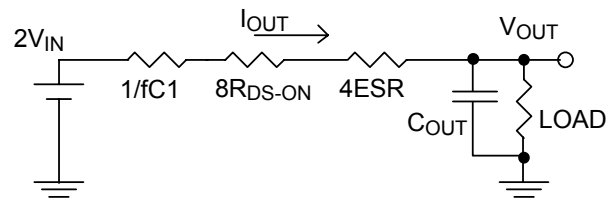

Fig. 22 The equivalent circuit of charge pump
According to the equation (16), when the duty cycle is 0.5, the equivalent circuit of charge pump is shown in Fig. 22. The term $8R_{DS-ON}$ is the total effect of switching resistance, $1/fC_1$ is the effect of flying capacitor and $4ESR$ is its equivalent resistance.
From the equivalent circuit shown in Fig. 22, it is seen that the terms $1/fC_1$, $4ESR$ and $8R_{DS-ON}$ should be as small as possible to get large output current. However, for users, since the R_{DS-ON} is fixed and manufactured in IC, what we can do is to lower $1/fC_1$ and ESR. However even the effect of $1/fC_1$ and ESR can be kept as small as possible, the term $8R_{DS-ON}$ still dominates the role that limits the maximum output current.